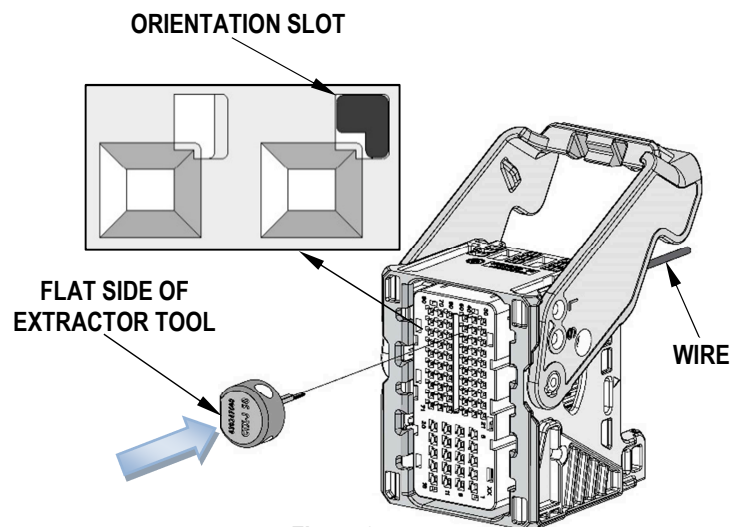

Figure 3
3. Position the blade of the extraction tool into the orientation slot in the front face of the housing. See Figure 3.